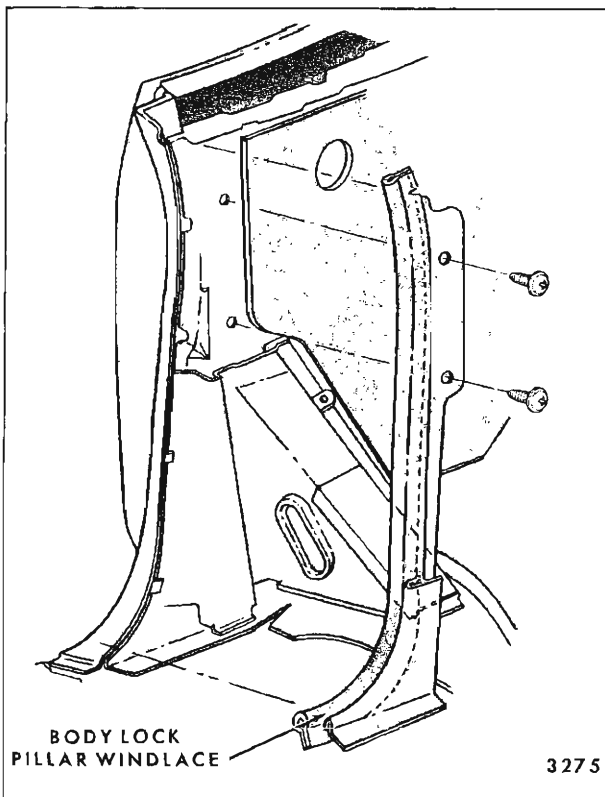

Fig. 14-29—Body Lock Pillar Windlace Assembly - "A-B & C- 37, 47, 57, 67 and 87" Styles
**NOTE:** Body lock pillar windlace is sewn to foundation board as a separate assembly on "A, B and C" styles (Fig. 14-29). To remove assembly after quarter trim is off, remove two exposed screws through foundation board and lift away.